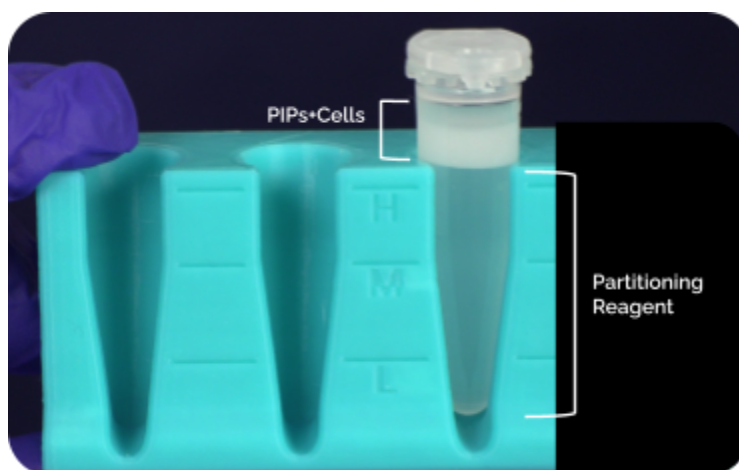

Figure 3. Emulsified PIPs and cells are seen floating in the top phase while the excess Partitioning Reagent in the bottom phase.
9. Remove the PIP tubes from the vortex adaptor and place them into the 1.5 mL stand (FB0002590). Let the emulsion stabilize for 30 seconds and then proceed to the next step. The reaction will first appear cloudy then the PIP emulsion will separate and two phases can be observed (Figure 3).